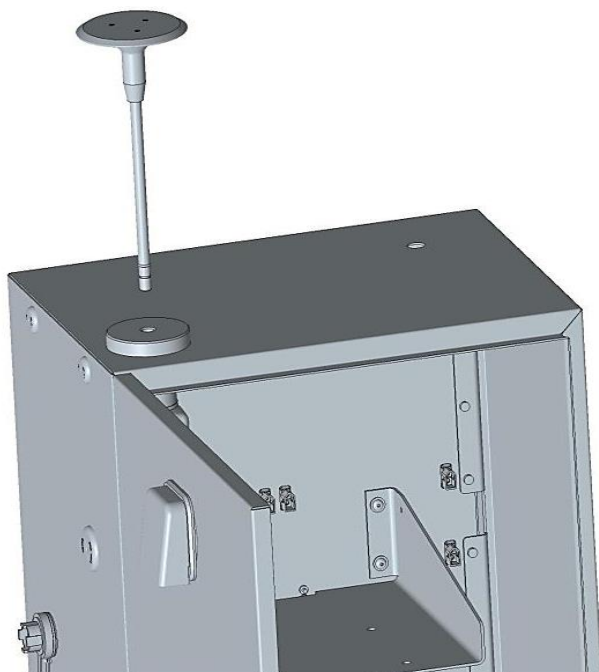

Figure 8: Thread the Inlet into the Inlet Ring
2. Thread the inlet assembly into upper inlet ring found on the top of the Environmental Enclosure (see Figure 8).